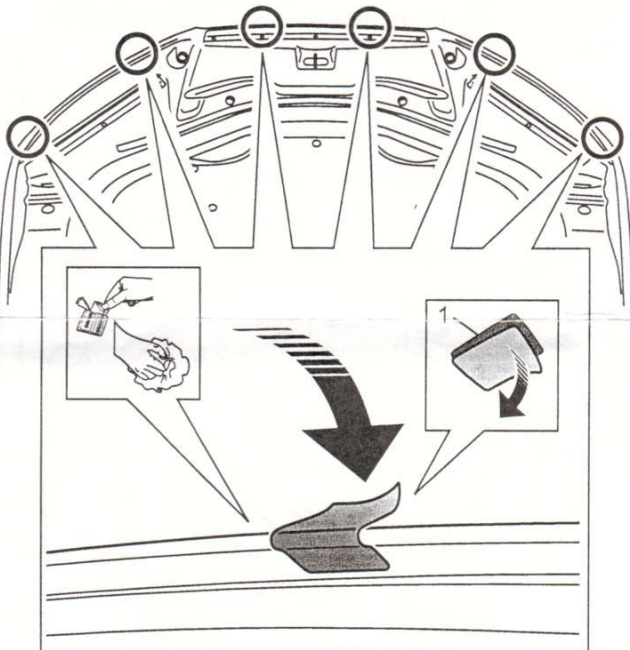

FIGURE 5
- At the noted outer wing clip and centre wing clip positions clean the bonnet surface with the alcohol wipe provided. Wipe away any residue with a clean dry cloth. Adhere the abrasive resistant tape strips (1) to the bonnet surface. Fold strips over so that half of the tape strip is adhered to the outside and half on the under side of the bonnet as shown. Refer to figure 5.